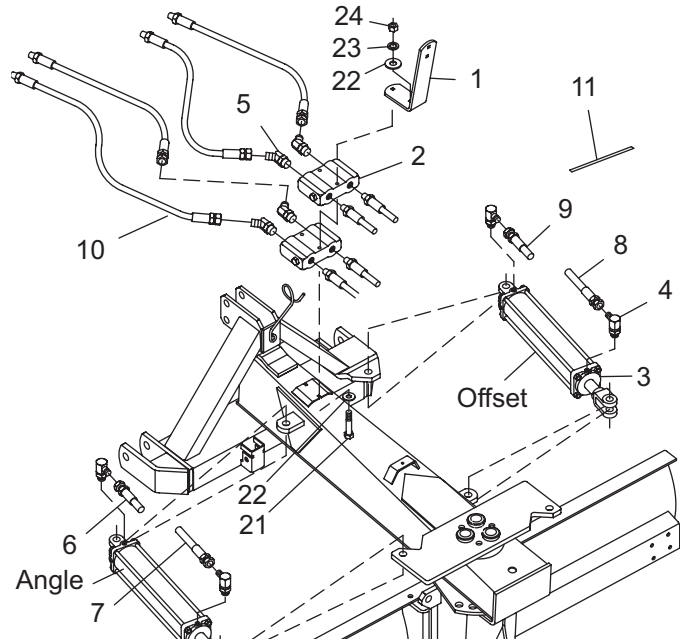

Figure 23. Relief Valve and Hose Installation
1. Install 45-degree elbows (5) into relief valves (2). Position elbows outward as shown in Figure 23.
2. Attach both valve blocks (2) and SMV bracket (1) to boom using two cap screws (21), four flat washers (22), two lock washers (23), and hex nuts (24).
3. Attach hoses (10) to elbows (5) as shown.
4. Attach hoses (8 & 9) to back side of relief valves (2) and offset cylinder (3) as shown.
5. Attach hoses (6 & 7) to back of relief valves (2) and angle cylinder as shown in Figure 23.